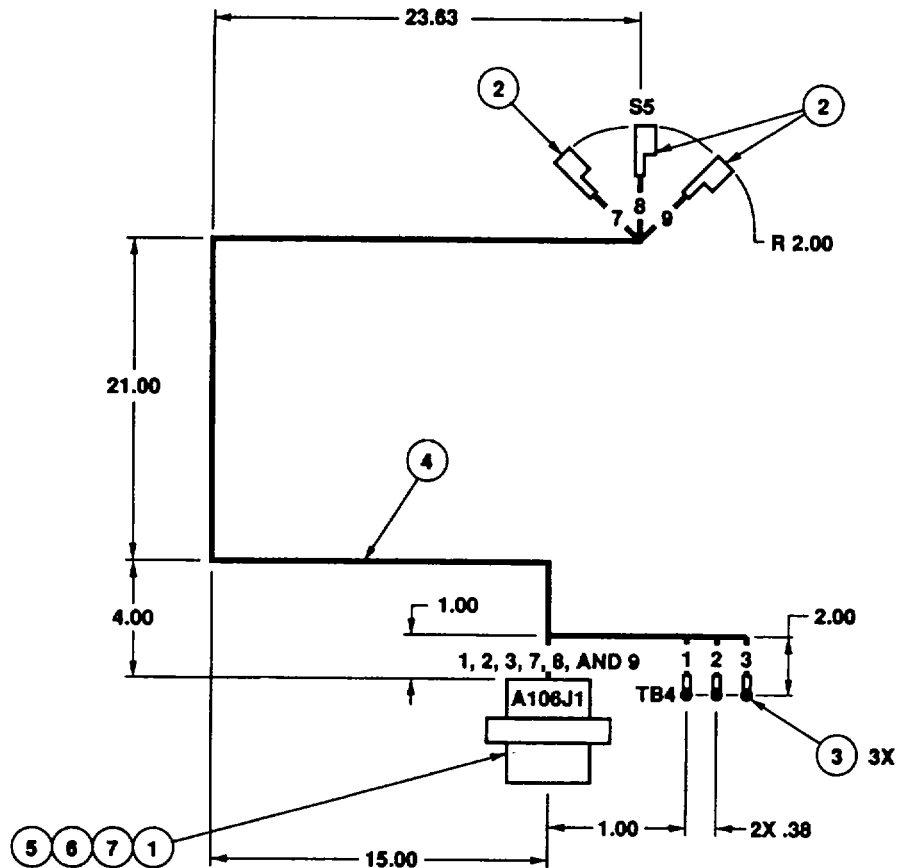

Figure F-15. Wiring Harness A106J1.
- b. Remove and discard electrical cable clamp (Figure F-15, 5), insulation sleeving (6), and insulation sleeving (7) from connector (1) and wiring.
- f. Install wire in connector (1).
- g. Install new electrical cable clamp (5), insulation sleeving (6), and insulation sleeving (7), as shown in Figure F-15, and heat shrink to a firm fit.